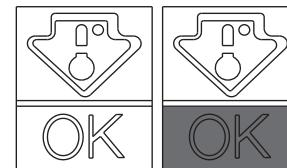

Fig. 5
- To maintain the best flavour, nourishment and freshness of foods, it is advisable to store them in the refrigerator compartment as shown in Fig. 5 below, making sure to wrap them in aluminium or plastic sheets or in appropriate covered containers to avoid cross-contamination.